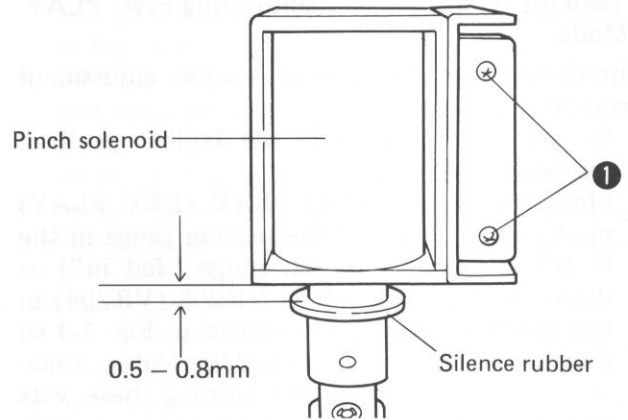

Fig. 7-5 Pinch roller pressure adjustment
1. Push the movable core of the pinch solenoid upwards by hand. At the point when the pinch roller meets the capstan, loosen screw ① to obtain a gap of 0.5 to 0.8mm between the pinch solenoid and silencer rubber as shown in Fig. 7-5, and then adjust the position of the pinch solenoid.